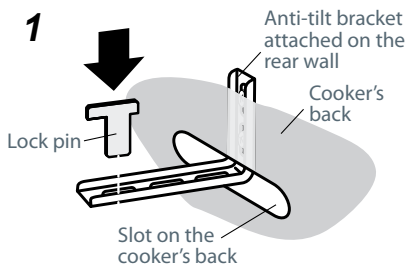

Fig. 6b Fitting the lock pin through the bracket
- Fit the lock pin through the bracket, as shown (Fig.6b).